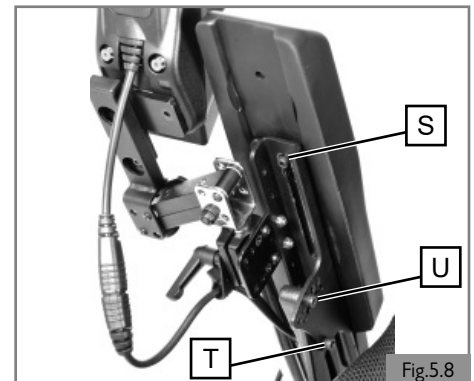

Fig.5.8
- a. Loosen the 4 bolts (Q) on both sides of the receiver.
- a. Two set screws (R) are located in the outer armpost.
- b. Turn the set screws (R) in or out until the desired fit is achieved.
5.6 Cantilever armrest (Fig 5.8 and 5.9)